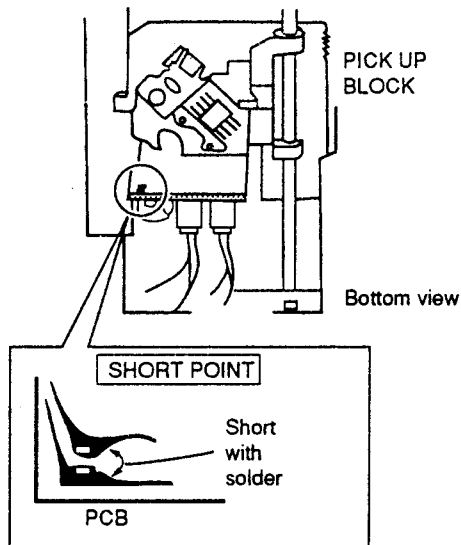

Fig. 3-1
- 2) Short the circuit on the PICK UP BLOCK with solder as shown in Fig. 3-1.
- 3) Disconnect the P200, P201, P202, P203 and P204 connectors on the TU-CD PCB. Be sure to short the shorting point on the PICK UP PCB before disconnecting the P200 and P201 connectors. (Refer to Fig. 3-1 on page 9.)
- 4) Remove the (B) screw and the five (C) screws of the TU-CD PCB, then remove the TU-CD PCB.